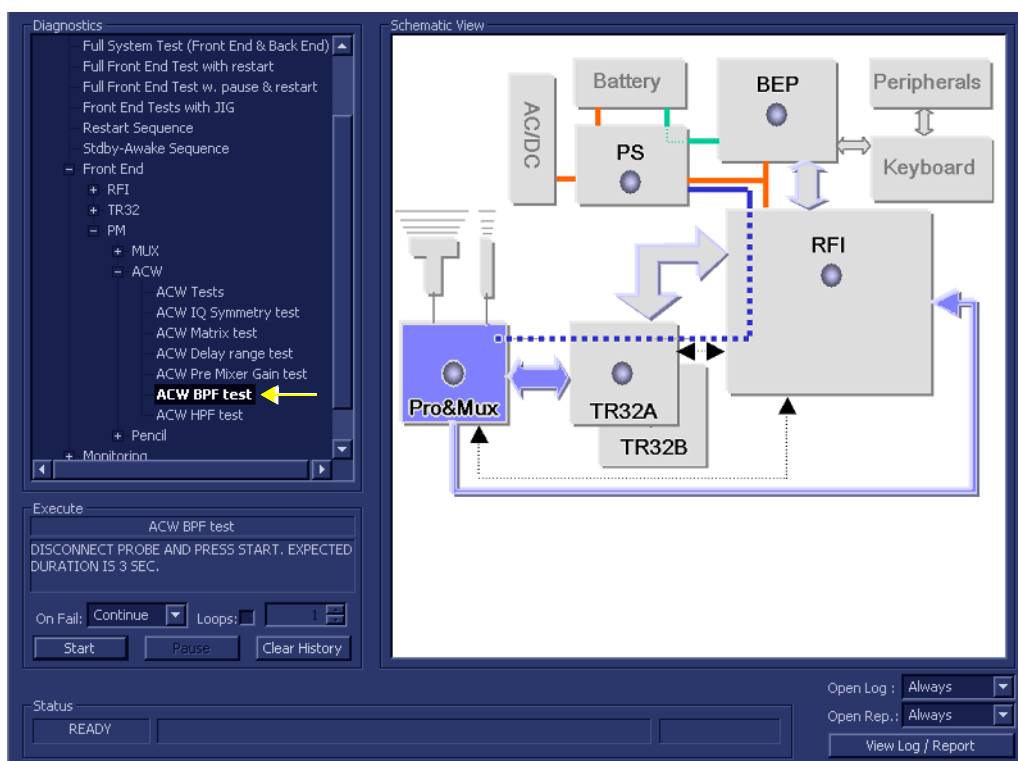

Figure 7-47 ACW BPF Test
- 1.) In the *Diagnostic Test* window, trackball to **ACW BPF Test** in the list of ACW tests available for selection from the Diagnostic Test Tree (see Figure 7-47 below) and press **Set**. The ACW BPF Test name is displayed under *Execute*; the relevant system components to be tested are highlighted light blue in the Schematic View (P&M), as shown below: